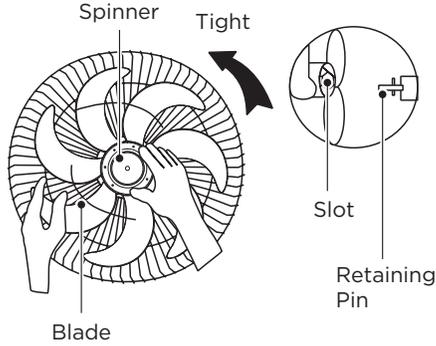

Fig.6
**2** Insert the blade into shaft, and make sure the rotor shaft pin is fitted into groove of the blade. Turn the spinner counter clockwise to tighten the blade. (Fig. 6)